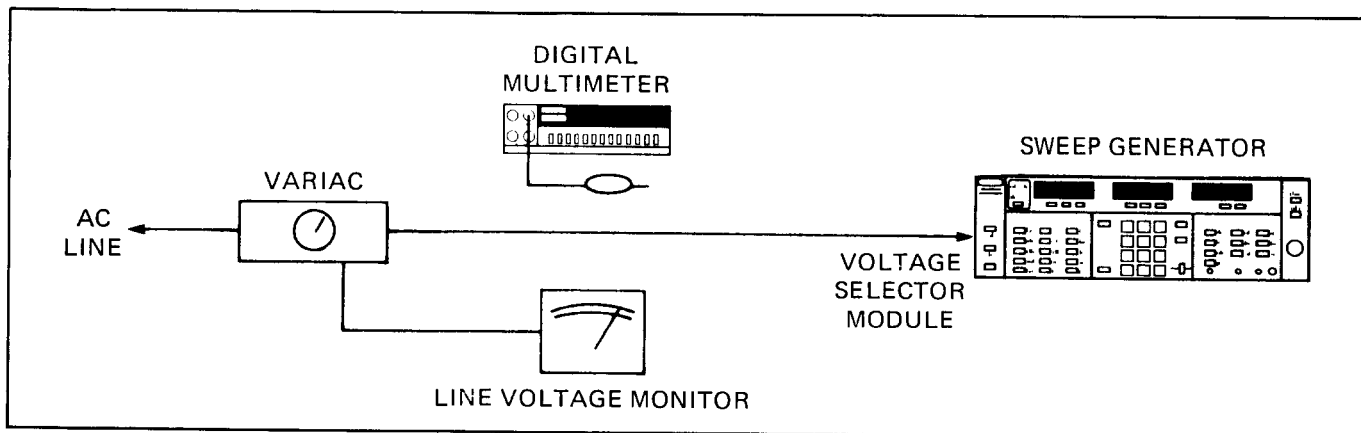

Figure 5-1. Test Equipment Setup for Low- and High-Line Adjustments
This paragraph provides instructions for adjusting the +5V and -38V supplies and the OUT OF REG, HIGH LINE, and LOW LINE motherboard LEDs. These adjustments should be performed when (1) power supply troubles are suspected and (2) after maintenance on any of the A13/A14 power supply circuits has been performed. The test equipment setup for the adjustments in subparagraphs d. and e. is shown in Figure 5-1.
2. Connect test equipment as shown in Figure 5-1.